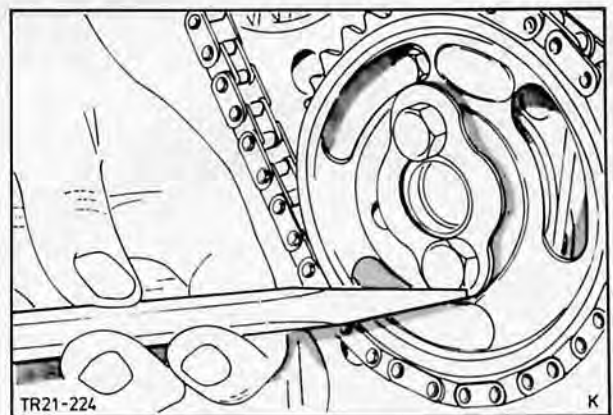

Fig. 39. Bend back camshaft sprocket lock tab
22. Bend over lock tabs, remove two bolts and detach camshaft gear complete with timing chain, Fig. 39.